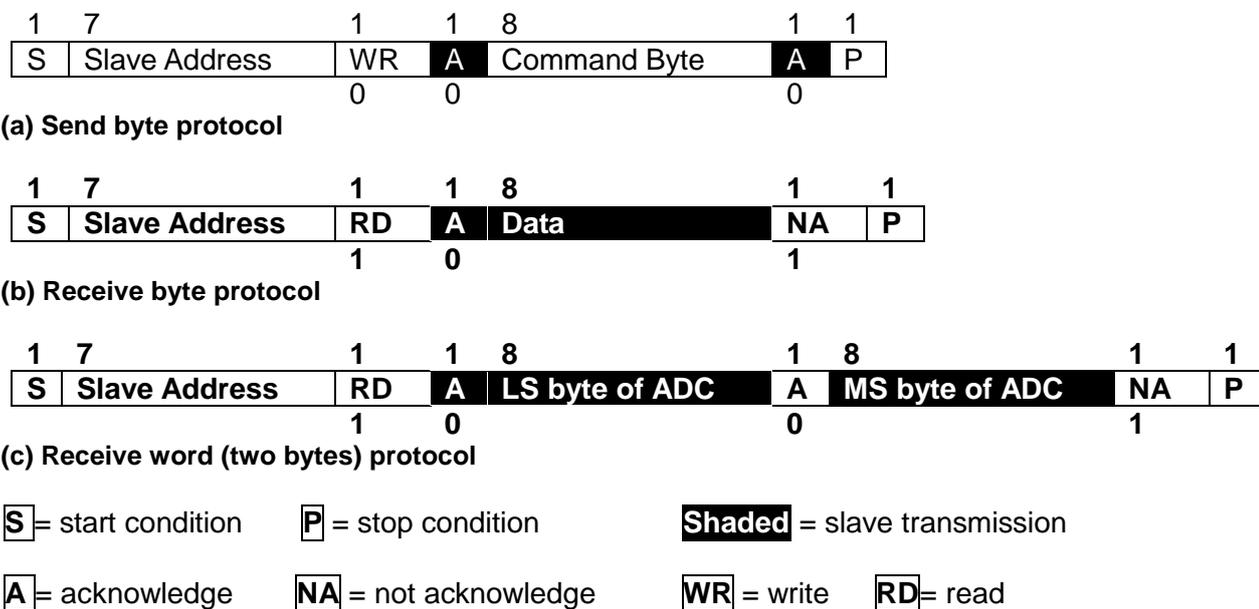

Figure 13. Communication Protocol
The Send Byte protocol allows single byte of data to be written to the device (see Figure 13-a). The written byte is called the COMMAND byte. The Receive Byte protocol allows one-byte data to be read from the device (see Figure 13-b). Two-byte data can be read by following the Receive Word Protocol shown in Figure 13-c. In Figure 13, the clear area represents data sent by the host (master) and the shaded area represents data returned by the ambient light sensor (slave device).
- (1). After being powered on, the device will initially be in the shut-down mode (default setting).
- (2). To operate the device, issue an Send Byte protocol (see Figure 13-a) with the device address 0x39 followed by a command byte of 0x0C to activate the ambient light sensor and put the device into "continuous operation mode".
- (3). To read the ADC conversion result, issue an Receive Word protocol (see Figure 13-c) with the device address 0x39 followed by two-byte reading procedures.
- (4). If a conversion has not been completed since being activated, the valid bit (D[15]) will be 0 to indicate that the data is not valid. If there is a valid conversion result available, the valid bit (D[15]) will be set logic high, and the remaining 15 bits will represent valid data from the ADC register.
- (5). Data may be read repeatedly from the ADC register, and although it will remain valid, the ADC register will not be updated until a new conversion completes.
- (2). To operate the device, issue an Send Byte protocol (see Figure 13-a) with the device address 0x39 followed by a command byte of 0x04 to activate the ambient light sensor and put the device into "one time integration mode".
- (3). I²C master sends a "start integration command" to the salve device by issuing Send Byte protocol with the device address 0x39 followed by a command byte of binary code (1xxx_xxxx).
- (4). After a period of user defined integration time, I²C master sends a "stop integration command" to the salve device by issuing Send Byte protocol with the device address 0x39 followed by a command byte of 0x30.
- (5). To read the ADC conversion result, issue an Receive Word protocol (see Figure 13-c) with the device address 0x39 followed by two-byte reading procedures.
- (6). If the stop integration command is not received by the device, the valid bit (D [15]) will be "0" to indicate that the data is not valid. If there is a valid conversion result available, the valid bit (D [15]) will be set logic high, and the remaining 15 bits will represent valid data from the ADC register.
- (7). Data may be read repeatedly from the ADC register, and although it will remain valid, the ADC register will not be updated until a new complete integration cycle has been carried out.